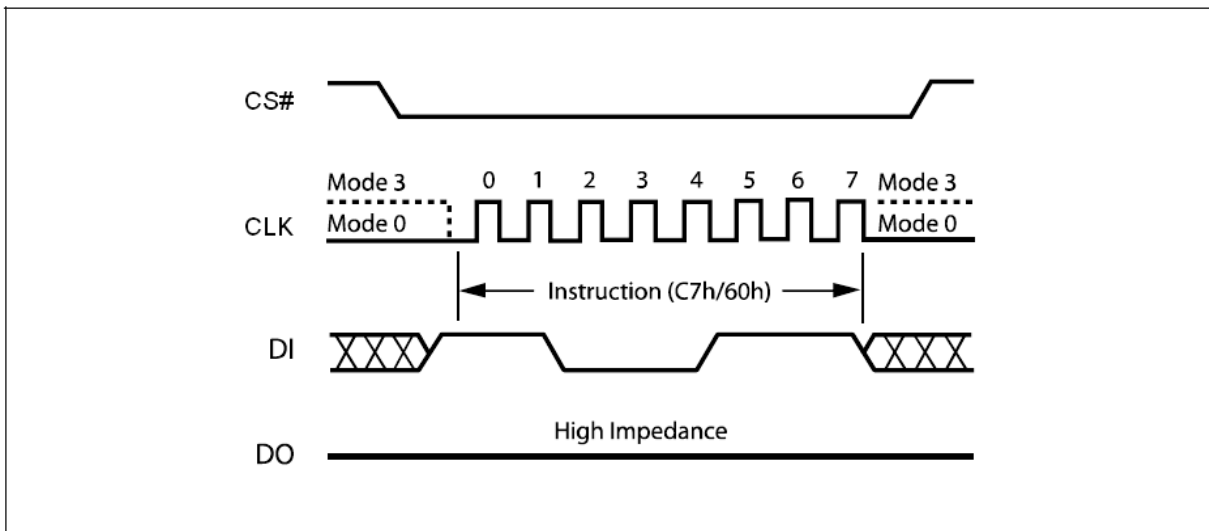

Figure 31. Chip Erase Instruction Sequence Diagram
The instruction sequence is shown in Figure 31. Chip Select (CS#) must be driven High after the eighth bit of the instruction code has been latched in, otherwise the Chip Erase instruction is not executed. As soon as Chip Select (CS#) is driven High, the self-timed Chip Erase cycle (whose duration is t_{CE}) is initiated. While the Chip Erase cycle is in progress, the Status Register may be read to check the value of the Write In Progress (WIP) bit. The Write In Progress (WIP) bit is 1 during the self-timed Chip Erase cycle, and is 0 when it is completed. At some unspecified time before the cycle is completed, the Write Enable Latch (WEL) bit is reset. The Chip Erase (CE) instruction is executed only if all Block Protect (BP3, BP2, BP1, BP0) bits are 0 and TB bit is 0. The Chip Erase (CE) instruction is ignored if one or more blocks are protected.